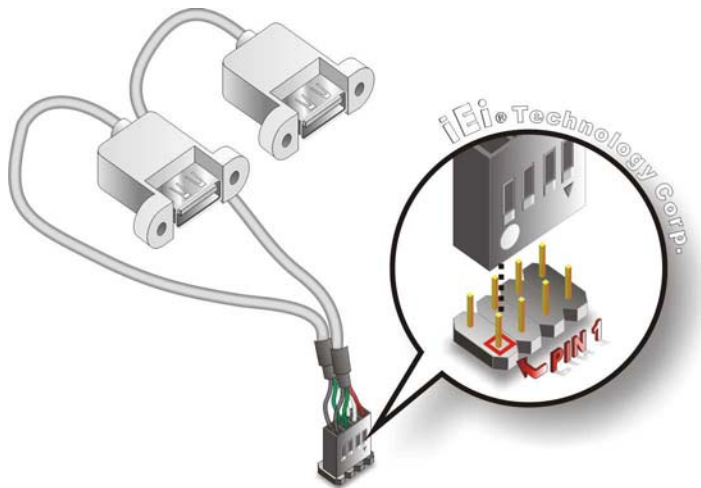

Figure 4-13: Dual USB Cable Connection
Step 3: Insert the cable connectors. Once the cable connectors are properly aligned with the USB connectors on the WAFER-945GSE2, connect the cable connectors to the on-board connectors. See **Figure 4-13**.